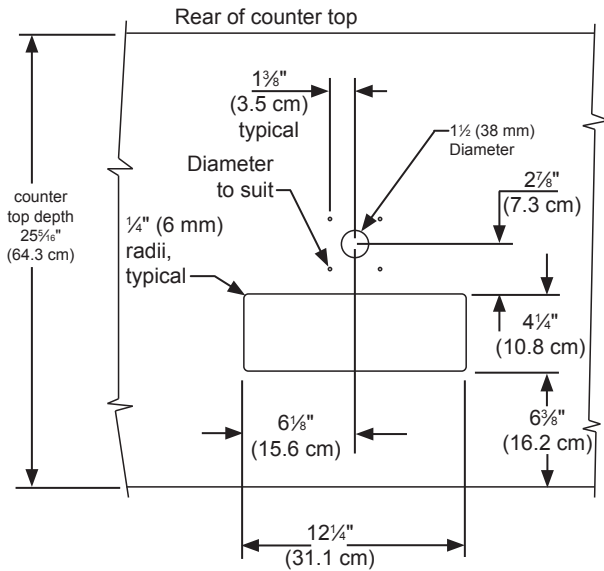

Figure 31
The cutout dimensions shown in Figure 31 are based on a 25 $\frac{5}{16}$ " (64.3 cm) deep counter top. Your counter top may be different than this and require other front to back dimensioning. Refer to the product dimensions on pages 6 and 7 when determining the required dimensions.
4. If you are installing your keg refrigerator under a counter you will need to drill 5 holes in the counter top to mount the tower. The first hole is a 1 $\frac{1}{2}$ " diameter hole located at the center of the tower for the beer line, locate approximately 13 $\frac{1}{2}$ " (34.3 cm) from the front edge of the counter top (based on a counter top depth of 25 $\frac{5}{16}$ "). Next drill the 4 tower mounting holes per the dimensions in Figure 31. The hole diameter is dependent on the counter top material and if screw anchors are required. The screws supplied are in the literature pack and are a #10 x 1" type AB stainless steel screw. Mark and cut the rectangular cutout for the drain sump. After the holes are drilled and the keg refrigerator is in place under the counter top feed the beer line through the tower gasket, the 1 $\frac{1}{2}$ " hole in the counter top and the hole in the top of the keg refrigerator. Mount the tower to the counter top with the 4 screws provided. Place the counter top drain sump, from the literature pack, in the rectangular hole with the radius cutout to the rear around the tower and place the grate in the sump.